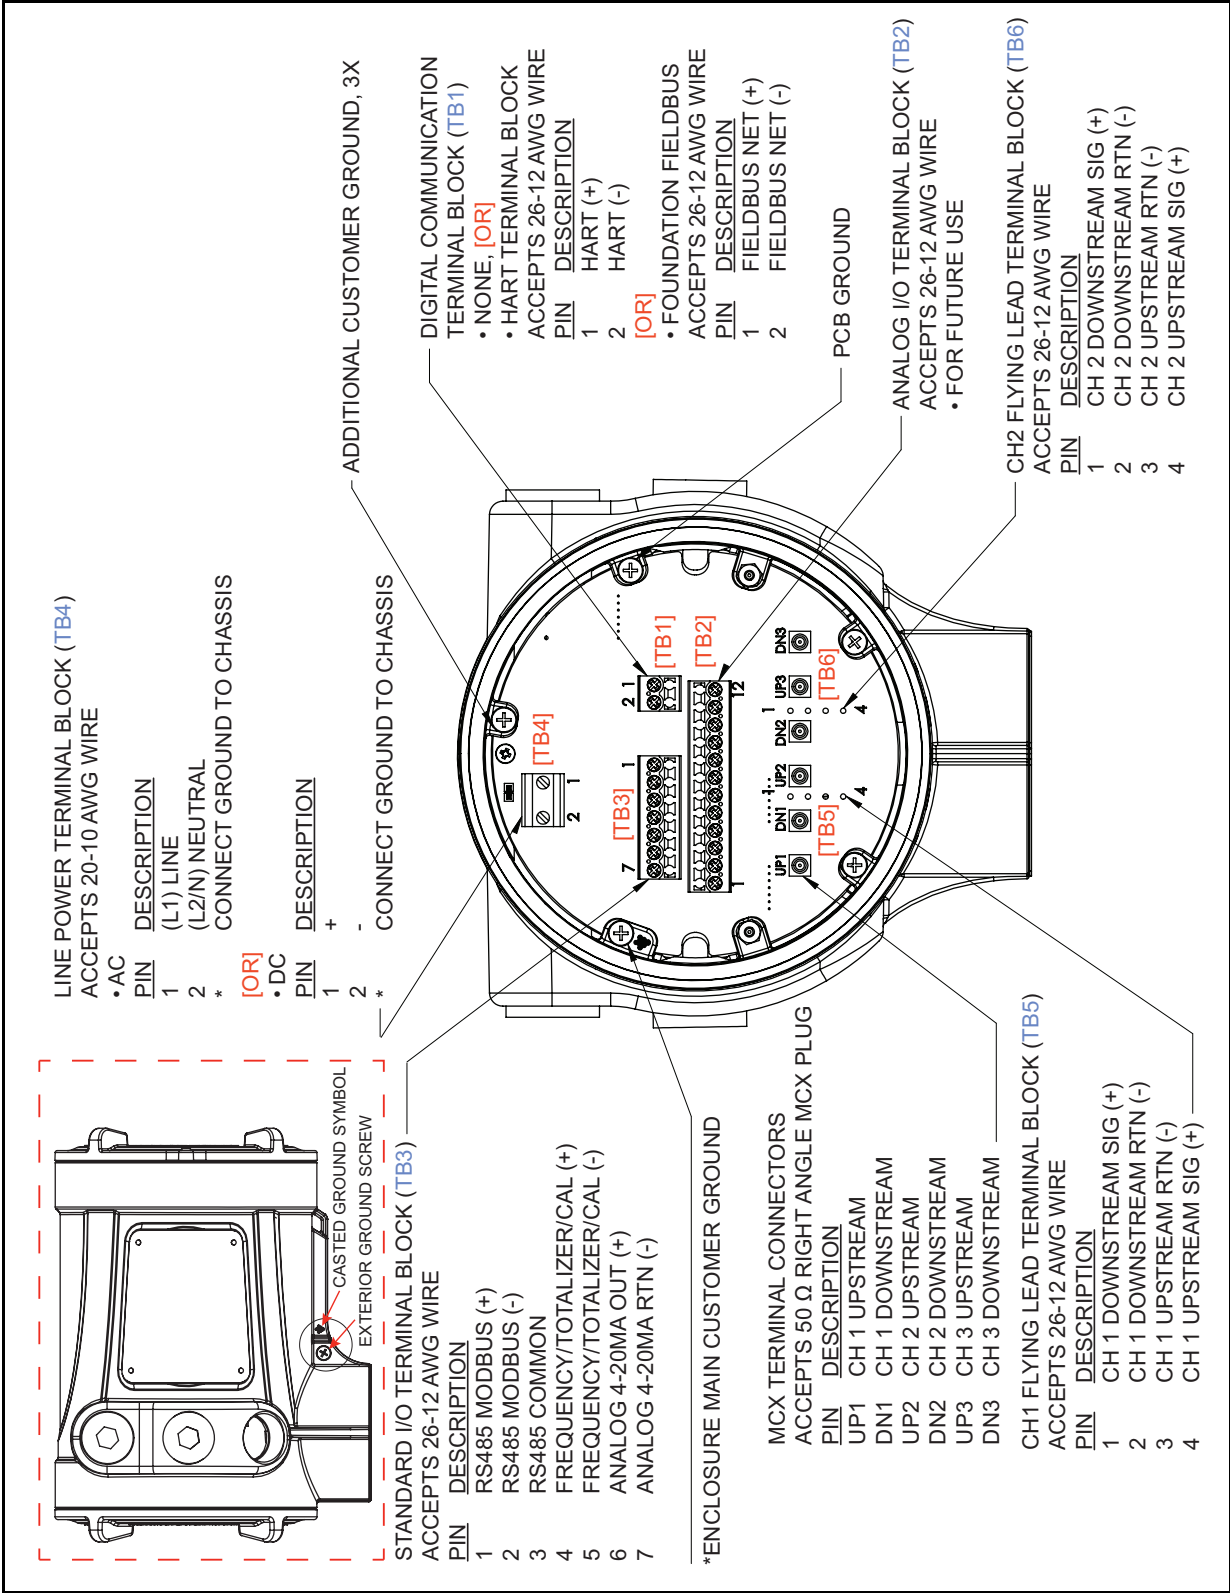

Figure 6: XMT1000 Terminal Board Wiring Diagram (ref. dwg. 702-2040)
This section contains instructions for making all the necessary electrical connections for the XMT1000 flow transmitter. Refer to *Figure 6 on page 8* for a complete wiring diagram.
WARNING! Proper grounding of the XMT1000 enclosure via the external grounding screw on the enclosure (see *Figure 6 on page 8*) is required to prevent the possibility of electric shock. All ground screws should be hand tightened only, to a maximum allowable torque of 2.5 N-m (22 in-lb).
3. Refer to *Figure 6 on page 8* for the location of the terminal block and wire the analog output as shown. Secure the cable gland.
3. Refer to *Figure 6 on page 8* for the location of the terminal block and wire the digital output as shown. Secure the cable gland.
Wire this option in accordance with the connections shown on the label in the rear cover (see *Figure 6 on page 8*). Refer to Appendix A, *Specifications* for the load and voltage requirements.
The XMT1000 flow transmitter is equipped with a calibration port specifically designed for calibrating the XMT1000. It is wired for a frequency output. To wire to this port, refer to *Figure 6 on page 8* and complete the following steps:
To wire to this RS485 serial port, refer to *Figure 6 on page 8* and complete the following steps:
Refer to *Figure 6 on page 8* to locate the terminal blocks and connect the line power as follows:
3. Route the cable through the conduit hole and connect the line power leads to the power terminal, using the pin number assignments shown in *Figure 6 on page 8*.